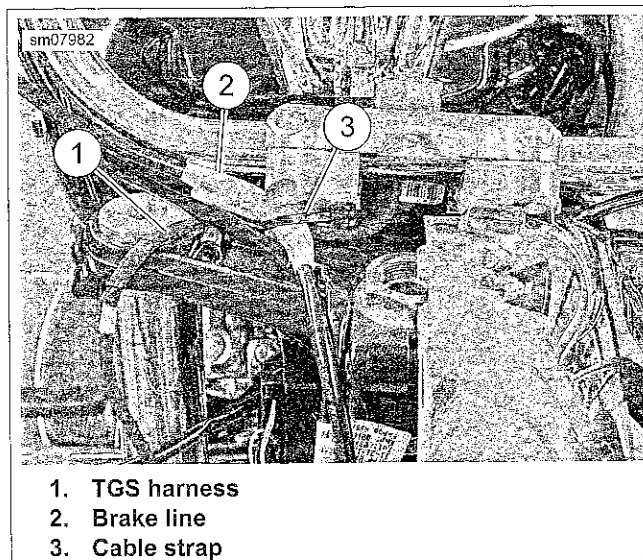

Figure 2-72. Capture Brake Line and TGS harness (FLHR/C)
4. Hold upper fork bracket down tight against upper dust shield. Tighten pinch screw (1) to 22-26 ft-lbs (29.8-35.2 Nm).
5. Verify that upper fork bracket is evenly positioned on both forks. Tighten upper fork pinch screws (2) to 14-18 ft-lbs (19.0-24.4 Nm).
7. See Figure 2-72 and Figure 2-73. Secure lines and wiring to handlebar risers with **new** cable straps.